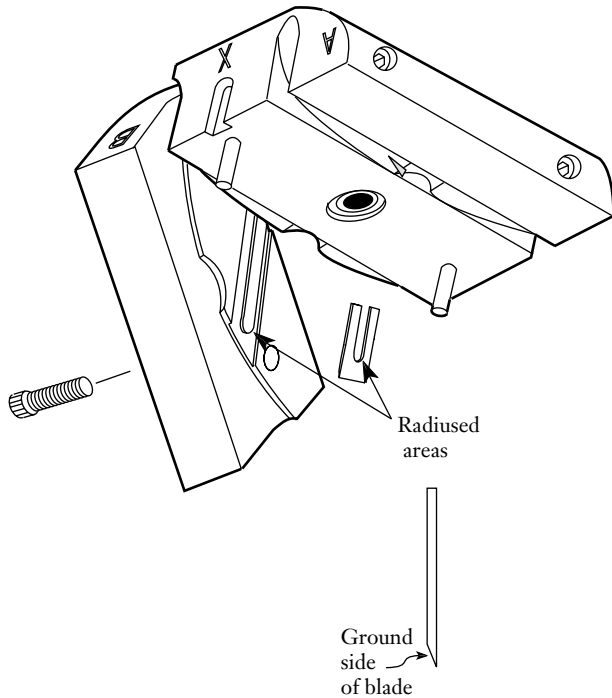

Figure 9
6.2 Starting with either tool half, use a 7/64-inch hex wrench to remove the screw closest to the first blade to be replaced; loosen but do not remove the other screw (see Figure 9).
6.3 Pivot the outer piece around the loosened screw so that the blade is exposed (Figure 9). Carefully remove the old blade and dispose of it properly.
6.4 Place the new blade into the tool with the ground side of the new blade facing the piece of the tool with the recessed area provided for the blade (see Figure 9).